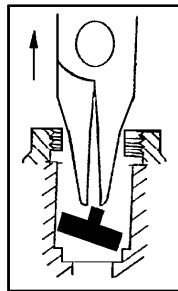

Figure 5-24: Removing the Flow Restrictor.
5. Remove the Restrictor with needle-nose pliers; as shown in figure 5-24.